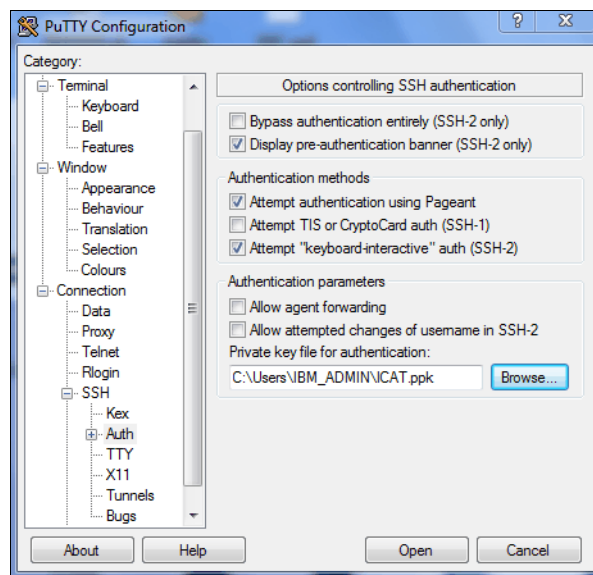

Figure 9-4 An ssh private key configuration
- ▶ The *private key for authentication* (for example, `icat.ppk`). This key is the private key that you have already created. Set this parameter under the **Connection** → **Session** → **Auth** category, as shown in Figure 9-4.